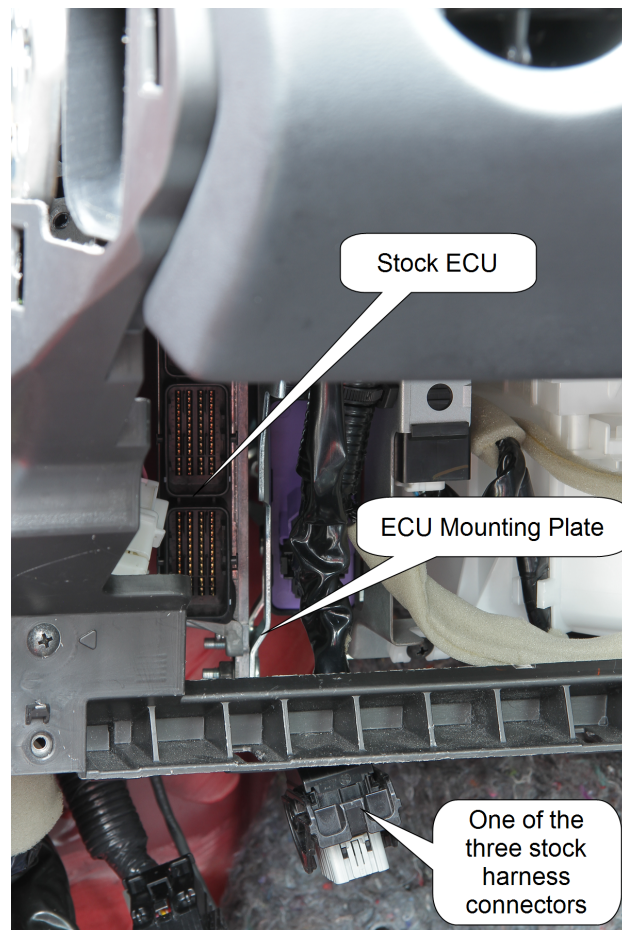

Figure 1.
- (b) Remove harness plugs from the stock ECU, see Figure 1.